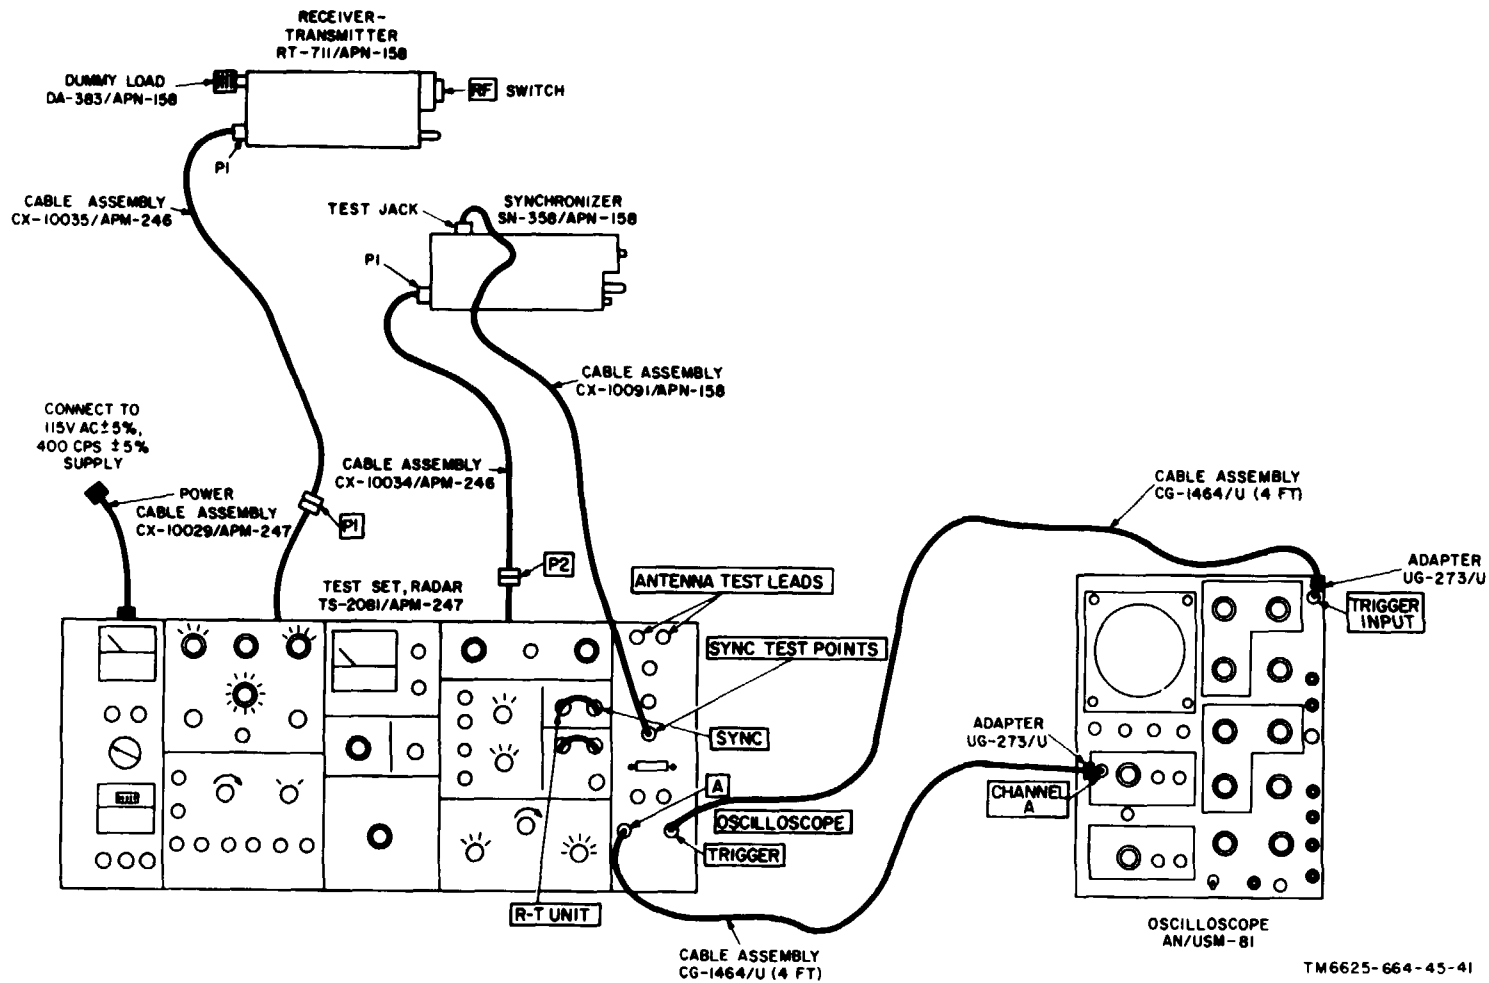

Figure 4-5. Gate pulse, range marks phase detector, and sweep balance test connection diagram.
- b. *Test Connections and Conditions.* Connect the test equipment as shown in figure 4-5.